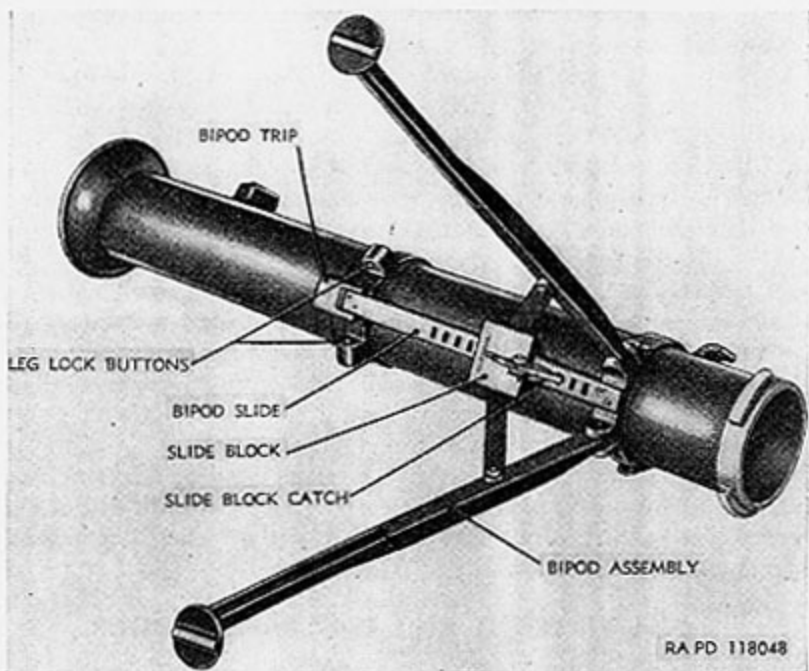

Figure 16. 3.5-inch Rocket Launcher M20B1—front barrel assembly.
b. The front barrel is free to rotate in the bipod when the bipod rear ring lock is released (par. 18). This permits leveling of the sight (par. 21b (2)). The bipod legs are held in the folded position by the spring actuated leg lock buttons of the bipod front ring assembly. Pulling the bipod trip (figs. 16 and 17) releases the legs for unfolding (par. 16). The bipod slide block catch holds the bipod against folding